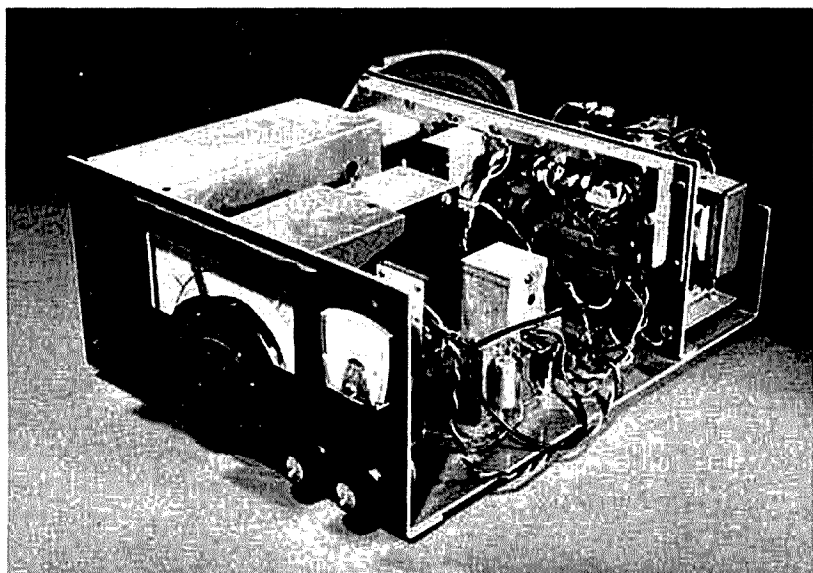

fig. 2. Packaged single-sideband receiver using the components shown in fig. 1.
fig. 2. Circuit in (A) shows how op amp input circuit can be changed for positive-only keying voltage such as the ST-3 or ST-4. Printed-circuit connections to pins 4 and 5 of the 741 are designed so they can be jumpered for the desired input configuration. Circuit in (B) shows how RTTY memory can be connected to ST-6 terminal unit, or a circuit built for local loop operation. The input to the memory does not load the ST-6 and affect the normal FSK connection at the same point.
An example of this is shown in fig. 2. This ssb receiver was originally built as in fig. 1. Instead of buying an expensive enclosure, it was housed, as shown, in bent-up aluminum scrap with a steel wraparound. When I find a reliable and stable circuit and layout, I usually etch a number of boards "for stock." This results in terrific time savings later. For example, I wanted to experiment with a variation of the KY crystal filter which is popular in Europe but had no receiver to match the available crystals. With all but one board in stock it took only two evenings to build the receiver shown in fig. 1.
The receiver in fig. 2 uses two of these stages. The first is swamped with the filter terminating resistor, the second stage with 2200 ohms — the two stages become very docile. As an rf amplifier the circuit will require careful shielding of input and output circuits. By reducing the value of C5 and adding a "gimmick" capacitor or small adjustable capacitance between the junction of C5, R4 and L2 to gate 1 you can include neutralization with the same layout. Agc or mvc can be included as shown. Limit this voltage to ± 4 volts on gate 2. Maximum gain requires about +4 volts from gate 2 to the source.